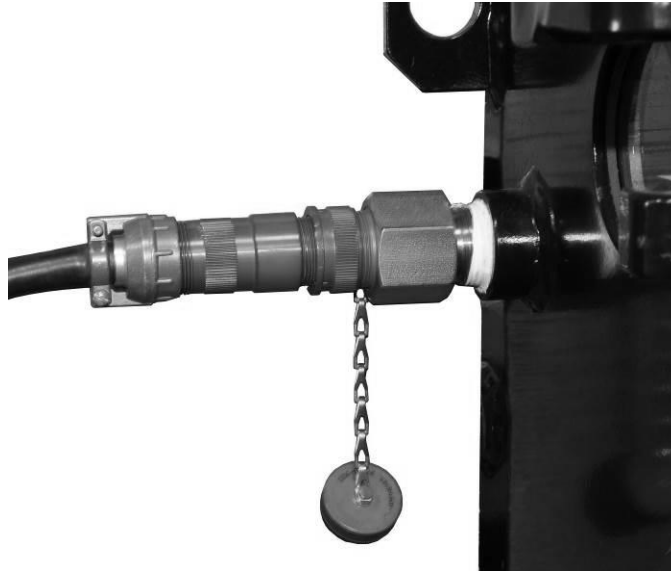

Figure 22
- a) Connect the Racking Pendant into the mating bulkhead connector on the side of the housing (Figure 22).